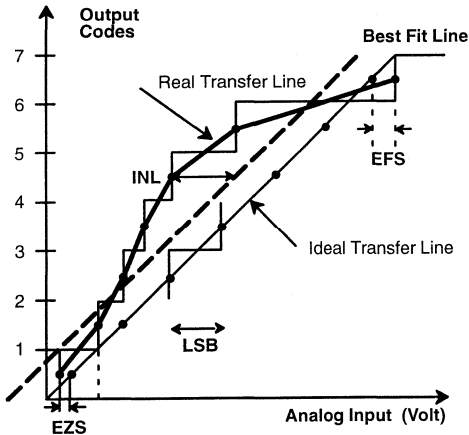

Figure 7. INL Error Calculation (Exaggerated for Visualization)
- 2 Tester measures code transition voltages by dithering the voltage of the analog input (V_{IN}). The difference between the measured code width and the ideal value ($V_{REF}/1024$) is the DNL error (see Figure 5). The INL error is the maximum distance (in LSBs) from the best fit line to any transition voltage (see Figure 7).
Figure 7. gives a visual definition of the INL error. The chart shows a 3 bit converter transfer curve with greatly exaggerated DNL errors to show the deviation of the real transfer curve from the ideal one.